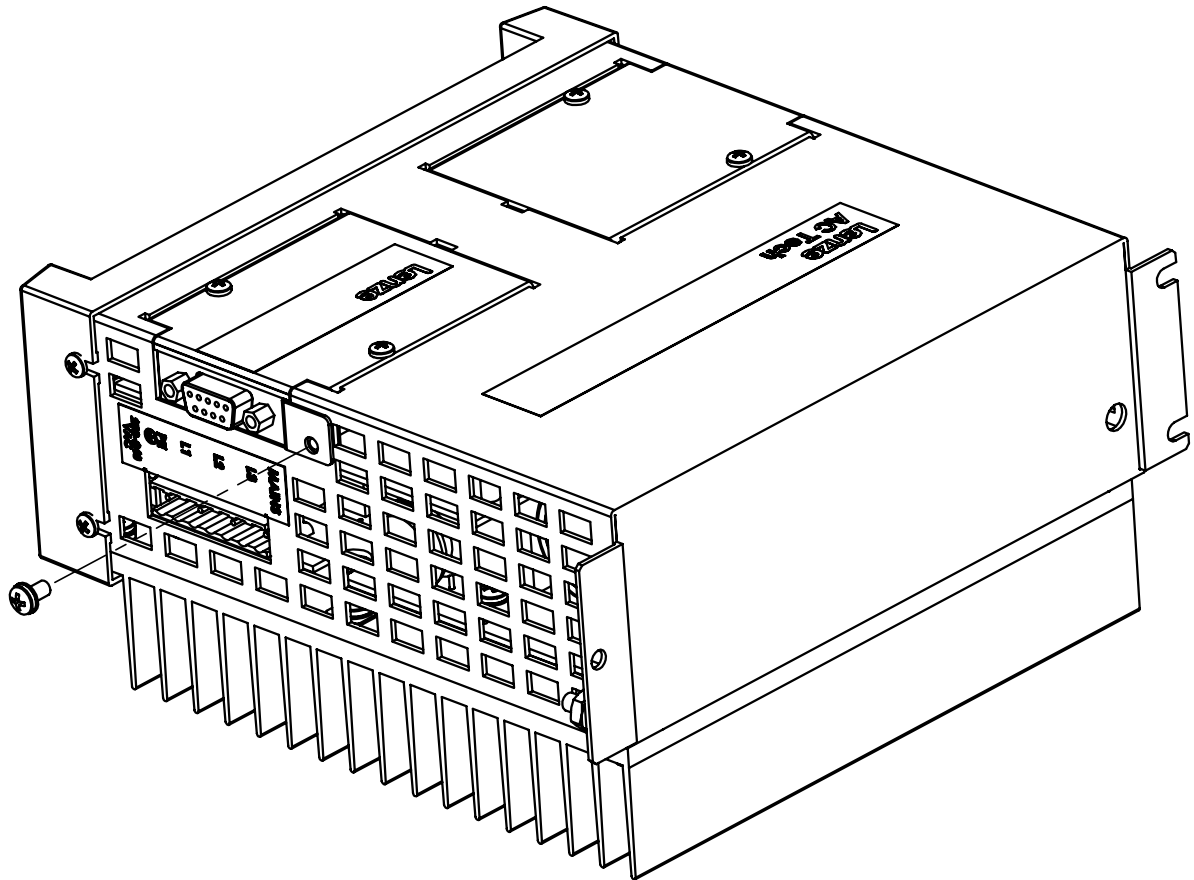

Figure 2: Installing the PROFIBUS-DP Communications Module
5. Replace the two COMM module screws that secure Option Bay 1. Using a phillips-head screwdriver, replace the GROUND screw as illustrated in Figure 2.